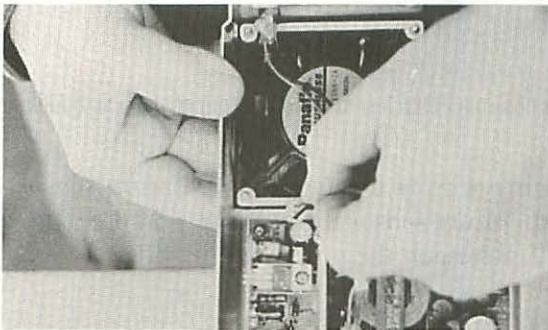

Figure 4-16 Disconnect the fan wires from the PCB connector by pulling straight up.
10. The two fan wires in the Astec power supply plug into a printed circuit board (PCB) connector marked “FAN.” The two fan wires in the Sony power supply plug into a PCB connector marked “CN204.” The physical locations of the connectors are different. Locate the correct connector by following the fan wires to the PCB. Disconnect the fan wires from the PCB connector by pulling straight, up as shown in Figure 4-16.